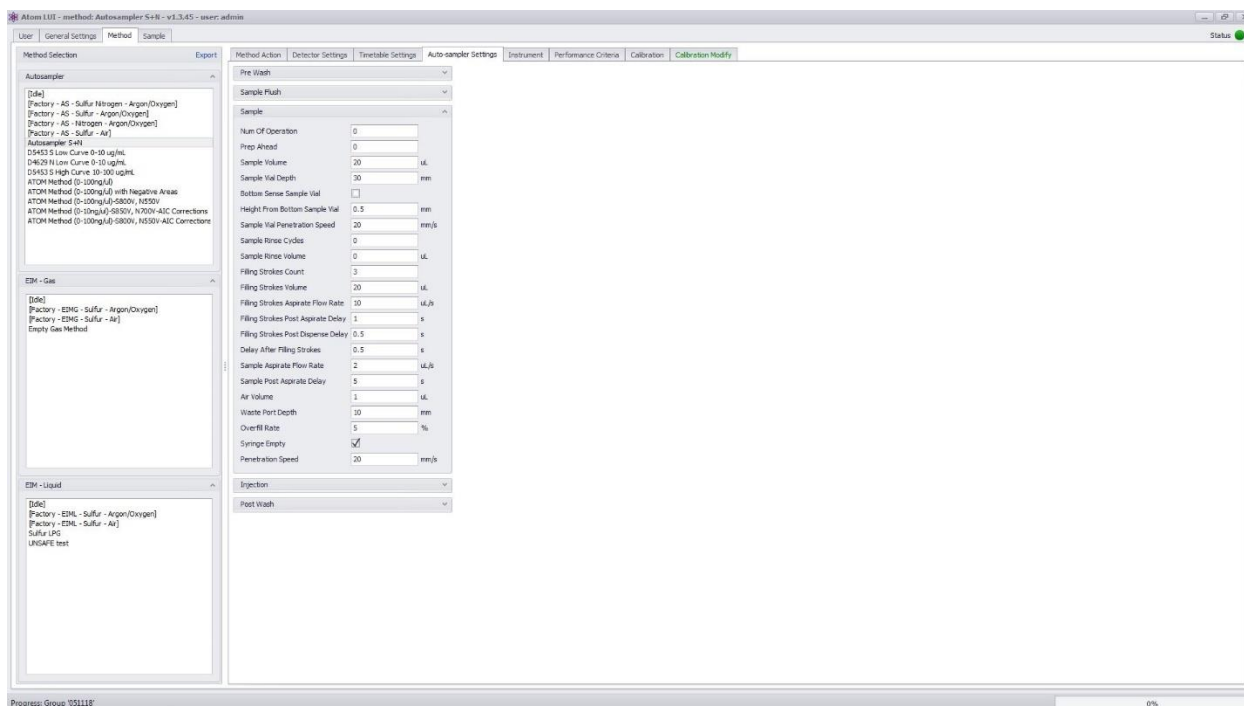

Figure 32 Autosampler Sample Menu
- 3) Sample (Figure 32): Sets sample draw